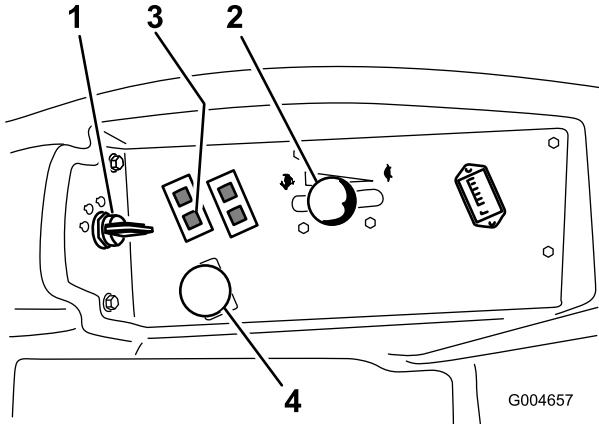

Figure 47
4. Move the PTO (power take-off) switch to the off position (Figure 47).
- Move the throttle lever midway between the Fast and Slow positions (Figure 47).